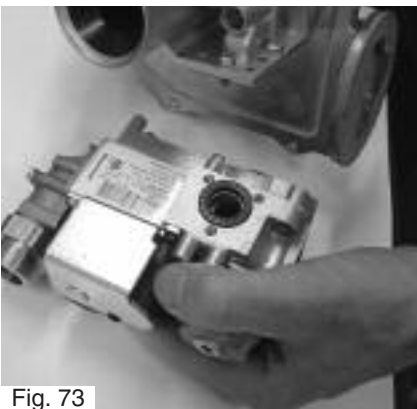

Fig. 73
5. Remove the gas valve from the venturi. (Fig. 73);